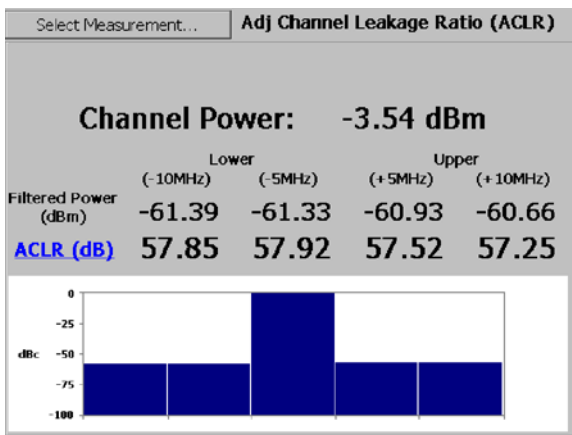

Figure 3-64: A typical ACLR display
4. Tap **ACLR**. See Figure 3-64.